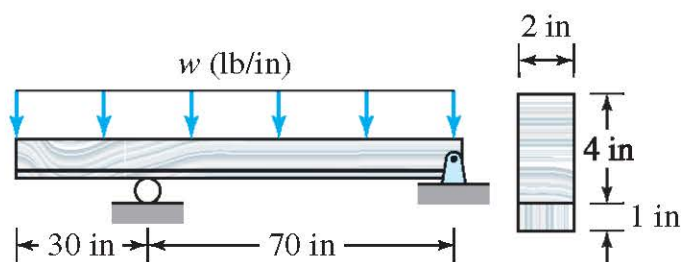

Fig. C6.11
C6.11 Two pieces of lumber are glued together to form the beam shown Fig. C6.11. Determine the intensity w of the distributed load, if the maximum tensile bending normal stress in the glue is limited to 800 psi (T) and maximum bending normal stress in wood is limited to 1200 psi.